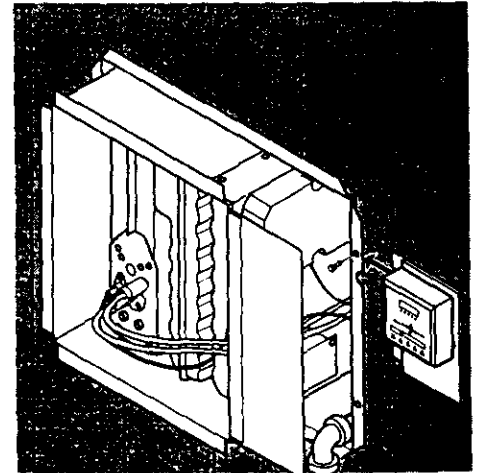

**Figure 4 - Attaching Thermostat to Thermostat Mounting Plate**
4. Route thermostat wires through slot/hole in side of thermostat mounting plate. Then route wires through 5/8" diameter hole in center of plate (see Figure 4, page 10).
6. Attach thermostat to thermostat mounting plate with screws provided (see Figure 4). **IMPORTANT:** Note mounting plate position in Figure 4. Correctly position mounting plate for your model furnace.